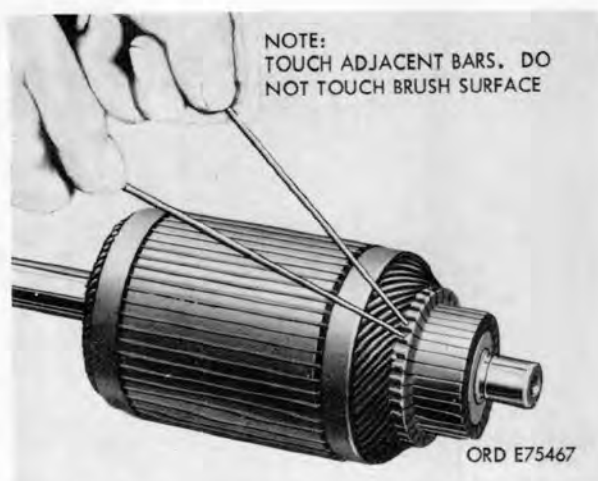

Figure 4-13. Checking armature for open circuits.
- (4) *Check for open circuits* (fig. 4-13). Touch test probes of continuity tester to risers on each of a pair of adjacent commutator
bars as shown in figure 4-13. Repeat test on each pair of adjacent commutator bar risers. An armature may be repaired providing the commutator bars are not too badly burned. Do not touch brush surface of commutator.